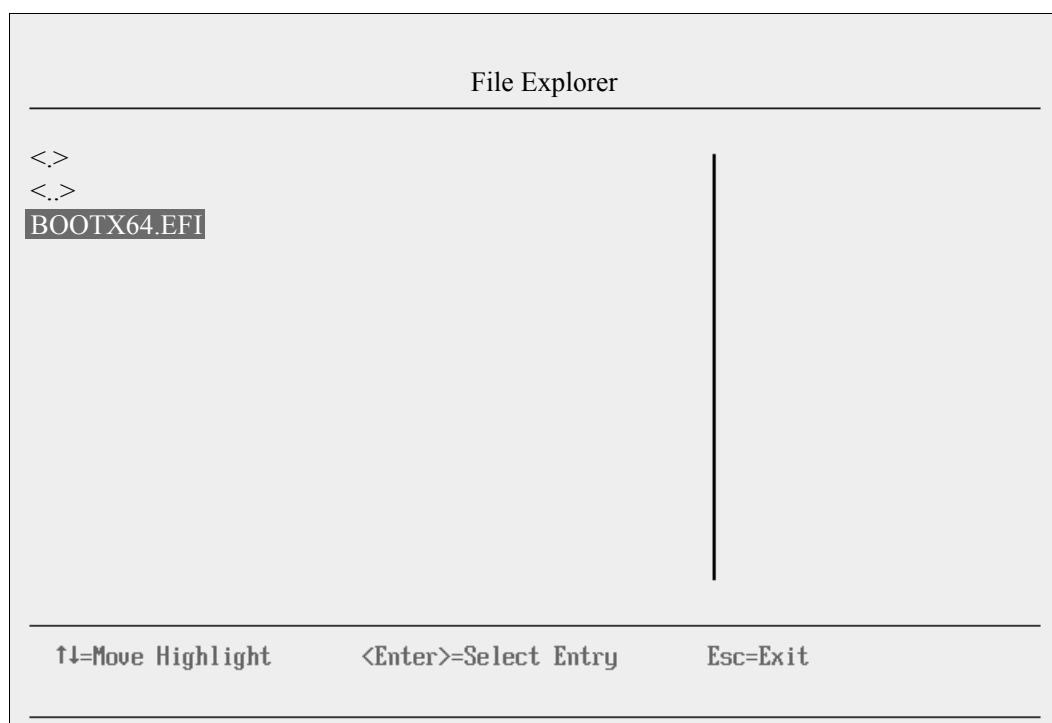

Figure 9-190 Selecting the BOOTX64.EFI file
- Now that you are browsing the DVD, select **EFI**, select **BOOT**, and then select **BOOTX64.EFI** (Figure 9-190). This file name might be different if you are booting other versions of Windows, VMware, or Linux.